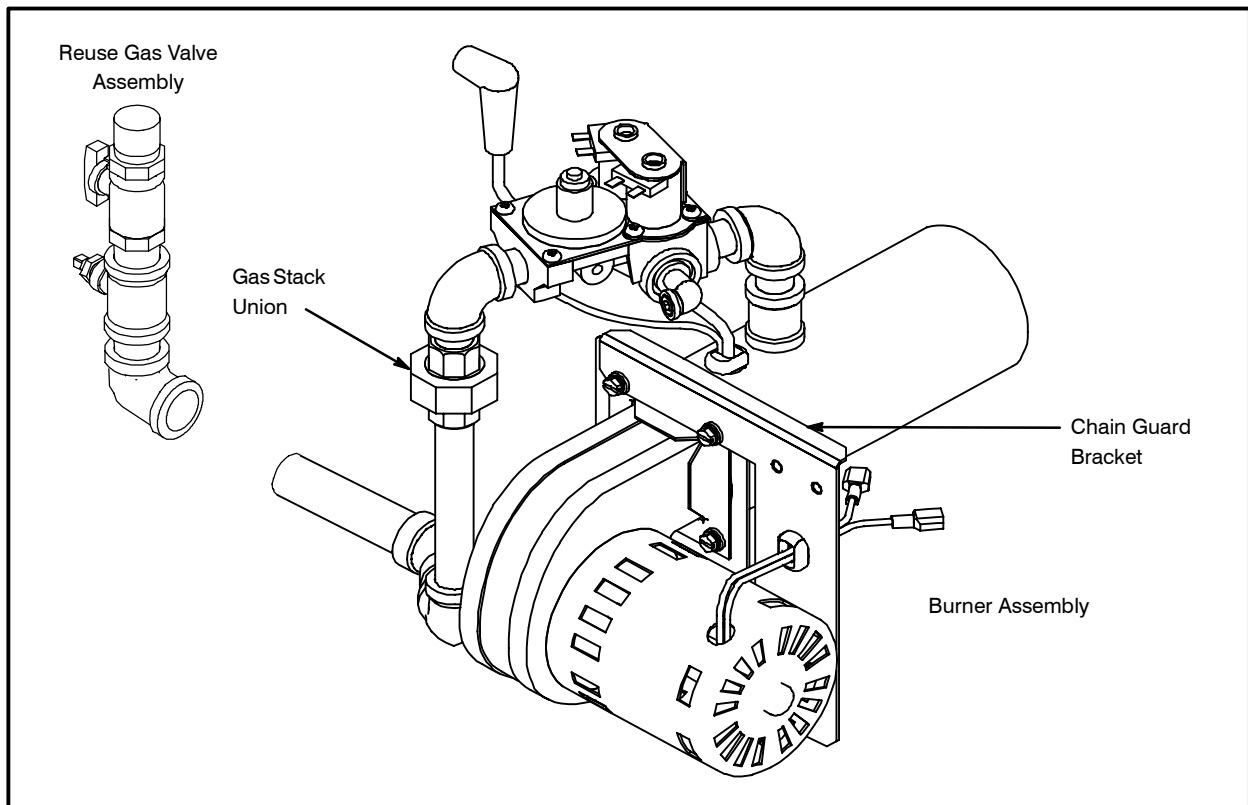

FIGURE 2
7. Remove the external gas valve assembly at the elbow on the back of the oven. See FIGURE 2.